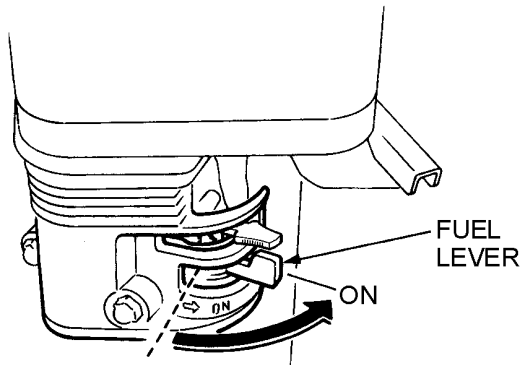

Figure 6. Engine Fuel Valve Lever (ON Position)
2. Place the engine fuel valve lever (Figure 6) to the **ON** position.